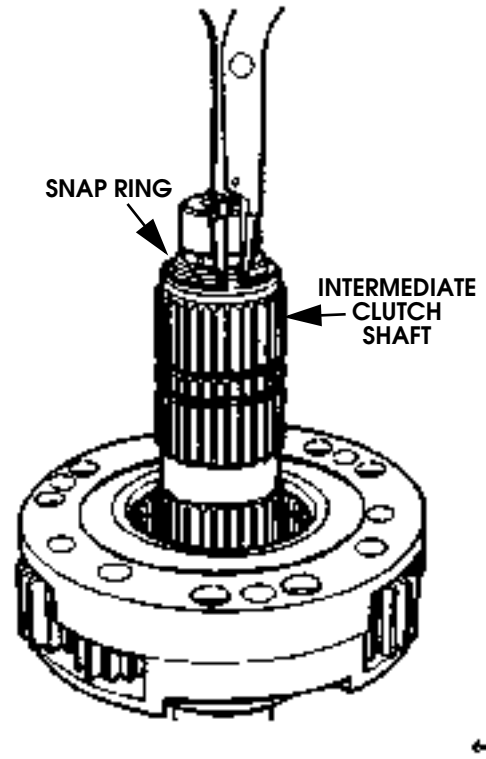

Figure 5-99: Intermediate Clutch Shaft Snap Ring Removal/Installation
- 21. Remove snap ring that secures intermediate clutch shaft on mainshaft (Figure 5-99).